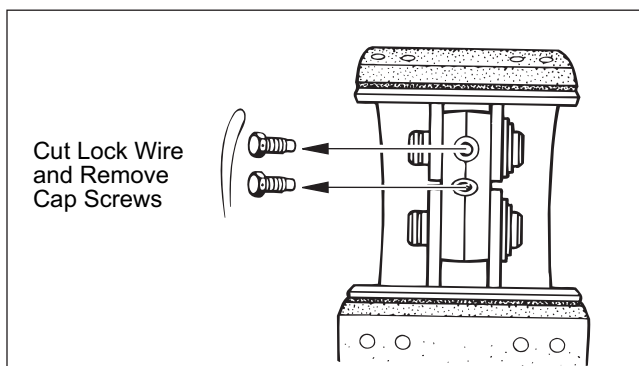

Figure 22. Cap Screw Removal
8. To allow removal of anchor pins, cut lock wire and remove cap screws from spider. Refer to Figure 22.